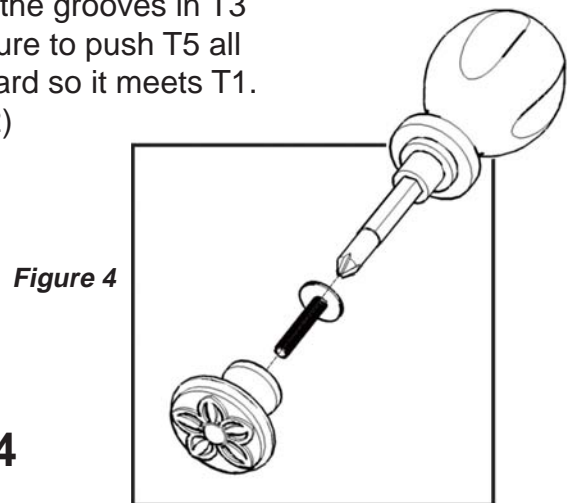

Figure 4
Attach Side Bars (P) to side panels with Head Cap Bolts. (see Figure 4)
Assemble Pull Handle with machine screws. (see Figure 4)